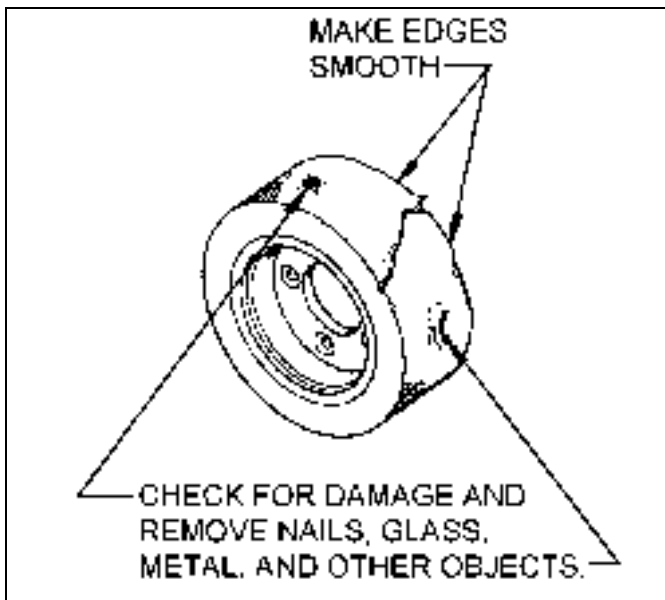

Figure 5-2: Tire Wear and Damage
1. Inspect the tire for chunking or embedded objects. See Figure 5-2. This is caused by running over objects on a littered floor, overloading or bad driving habits - i.e. sharp, rapid turns at high speeds or rapid starts and stops.